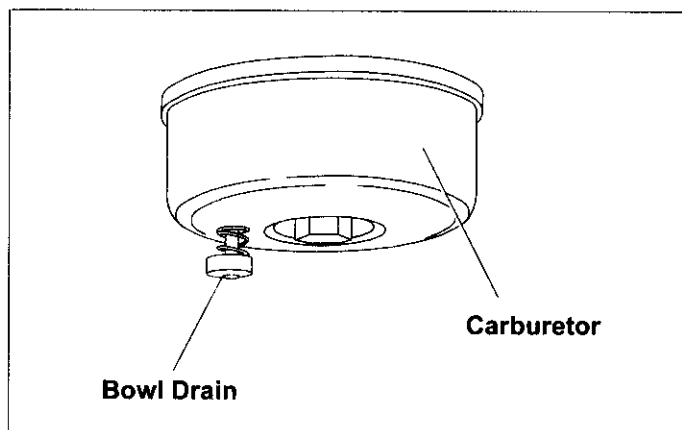

Figure 30. Draining Carburetor
2. Drain remaining fuel from carburetor by pressing up on bowl drain if provided, into an approved red GASOLINE container, being careful to avoid spilling. See Figure 30.